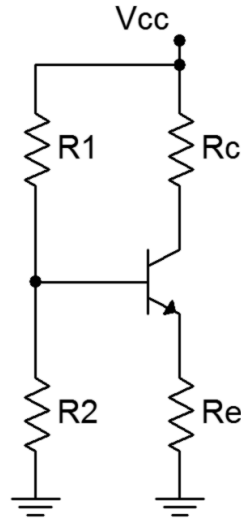

Figure 1
1. Consider the circuit of Figure 1 using $V_{CC} = 10$ volts, $R_1 = 10\text{ k}\Omega$, $R_2 = 3.3\text{ k}\Omega$, $R_E = 4.7\text{ k}\Omega$ and $R_C = 5.6\text{ k}\Omega$. Using the approximation of a lightly loaded “stiff” voltage divider, determine the ideal end points of the DC load line and the Q point, and record these in Table 1.
3. Build the circuit of Figure 1 using $V_{CC} = 10$ volts, $R_1 = 10\text{ k}\Omega$, $R_2 = 3.3\text{ k}\Omega$, $R_E = 4.7\text{ k}\Omega$ and $R_C = 5.6\text{ k}\Omega$. Measure the base, emitter and collector voltages and record them in the first row of Table 2 (Experimental). Compute the deviations between theoretical and experimental and record these in the first row of Table 2 (% Deviation).
- Build the circuit of Figure 1 in a simulator. Run a DC simulation and record the resulting transistor voltages in Table 6.